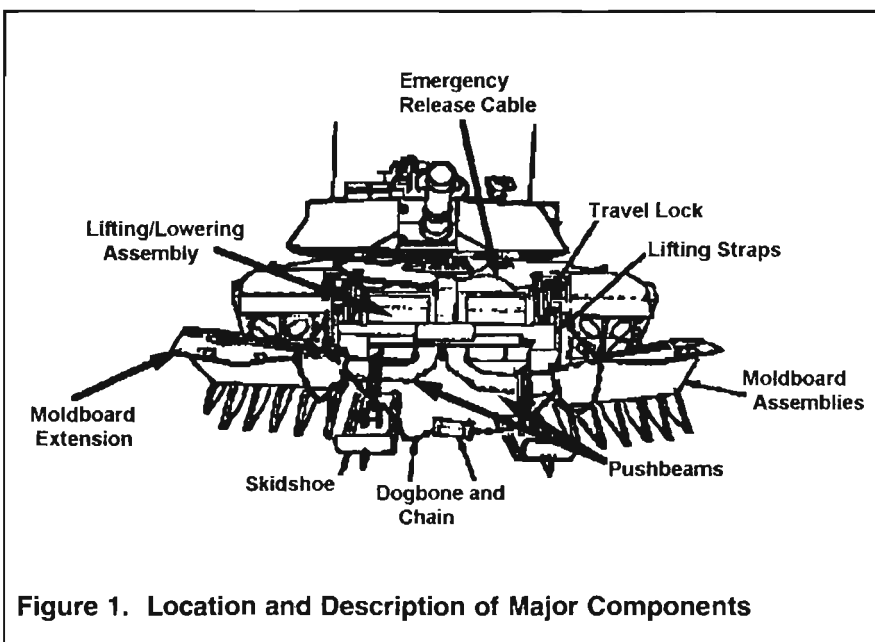

Figure 1. Location and Description of Major Components
- Broken lifting straps. (See Figure 1) The nylon lifting straps that raise and lower the blade suffer much abuse and become cut and frayed by concertina wire or other sharp objects. Consequently, they break when under load. To prevent damage to the straps, some units bolt wire catchers, similar to those on the old M151 bumper, on the moldboard in front of the straps.